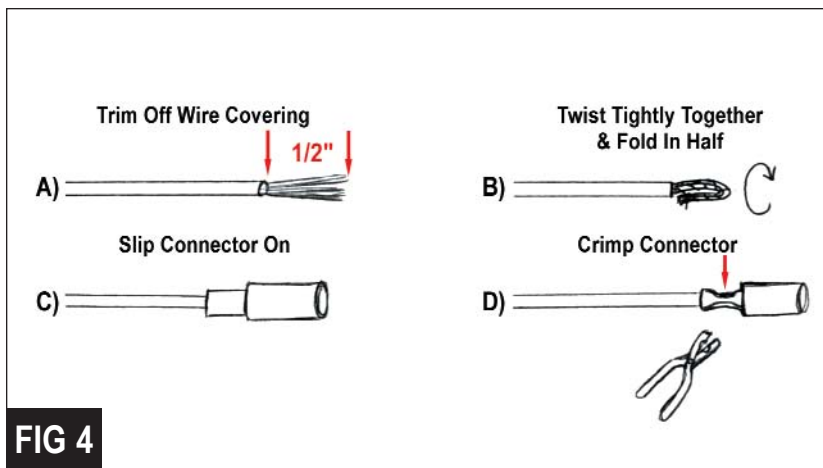
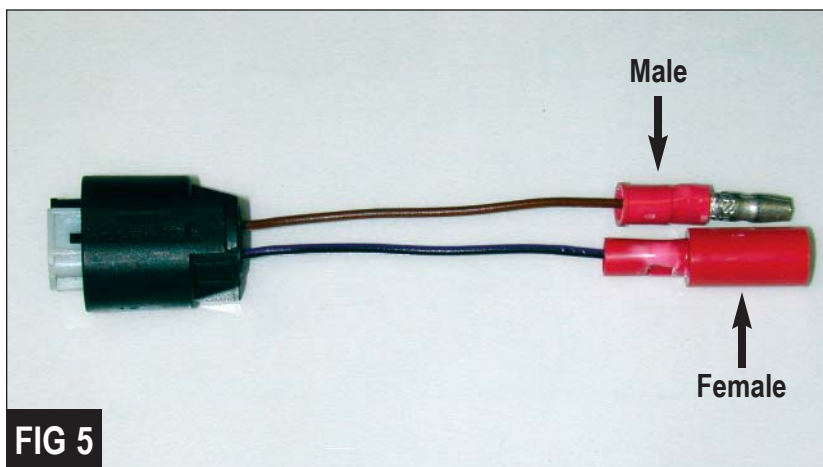

FIG 4
FIG 5
3. On the plug side from the front saddle, remove 1/2" of the plastic covering (*Figure 3*) from the brown wire, making sure to be careful not to cut through the wires, then twist the wires together, bend them over in half, then crimp the male connector onto it (*Figure 4*). Do the same to the purple wire, but crimp the female connector onto it. This should reflect the same as the Corbin seat wire connectors. This will be your adapter plug for future use if needed (*Figure 5*). You do not need this for your new Corbin saddle.